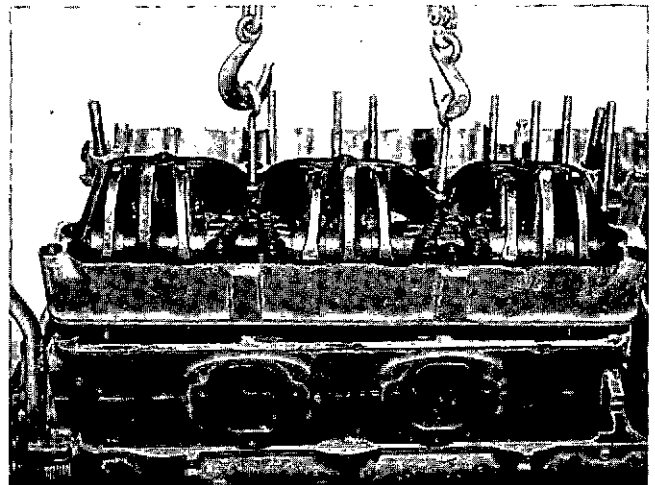

Fig. 0-31, V40063. Removing rocker arm housing
3. Lift rocker housings from engine, Fig. 0-31, and discard gaskets.